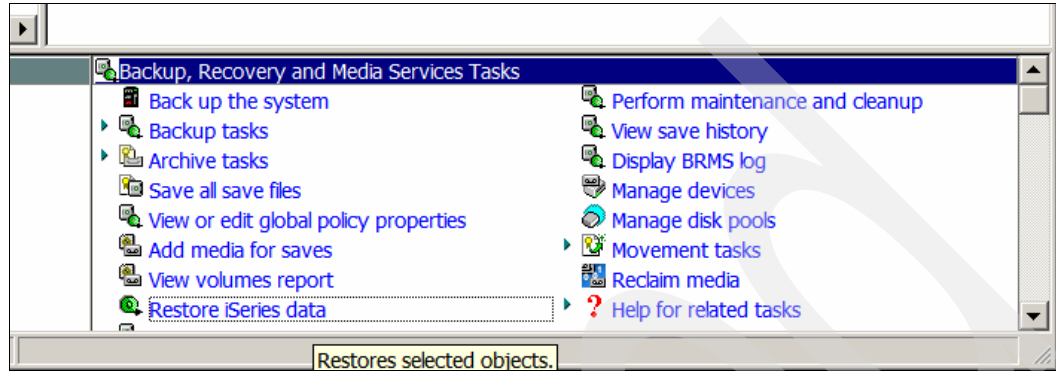

Figure 6-35 Restore saved data i
1. Still in iSeries Navigator, in the bottom right panel, click **Restore iSeries Data**. This is shown in Figure 6-35.